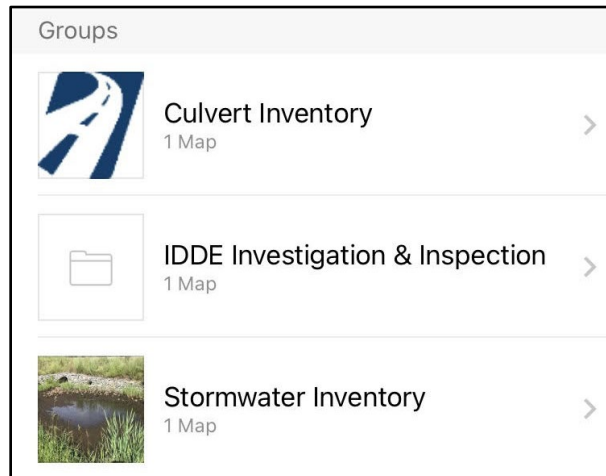

Figure 12
3. Scroll down to Groups and select the Stormwater Inventory group (Figure 12).